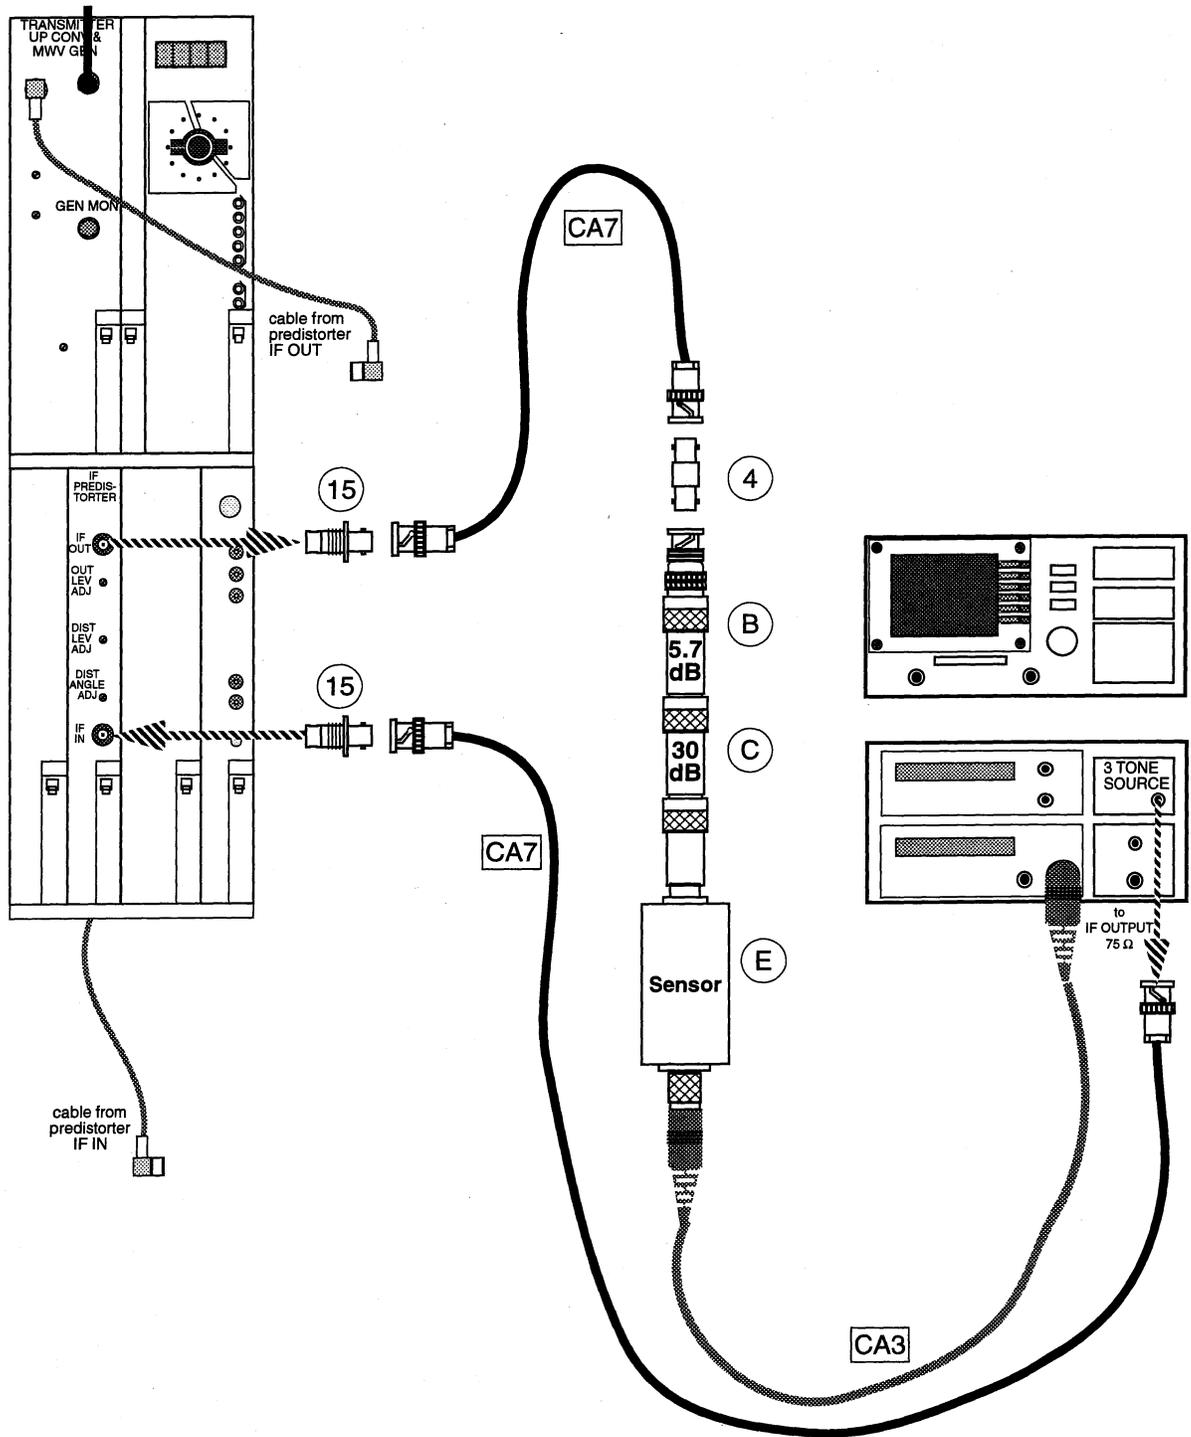

Figure 28. Establish 3-Tone Test Signal Level at Predistorter Output
- 17 Connect the test equipment as shown in Figure 28.